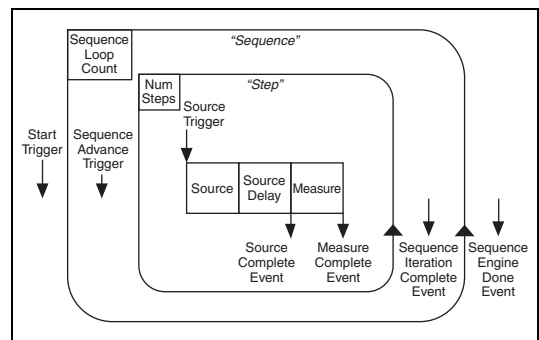

Figure 3. NI-DCPower Programming Flow
* For currents ≥500 mA, refer to the additional information in Figure 3.
Figure 3 illustrates the programming flow in NI-DCPower using Sequence source mode with automatic measurements. For more information about programming the NI PXIe-4154, refer to the *NI DC Power Supplies and SMUs Help*.